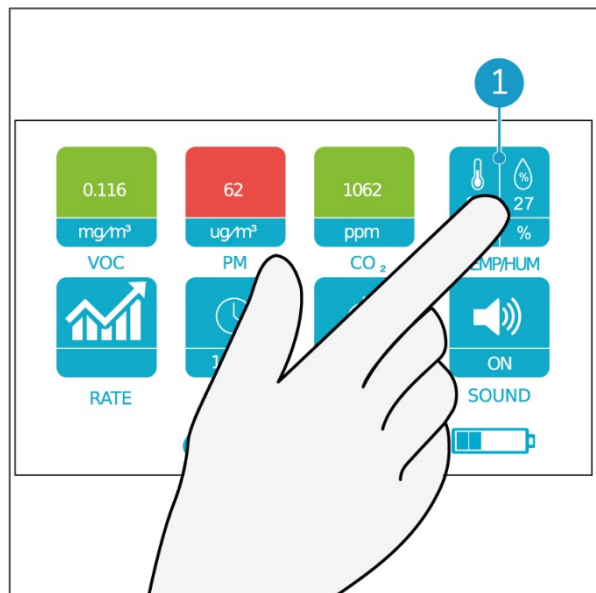

Figure 16
1. Touch the TEMP/HUM button (Figure 16, pos 1) with your finger.